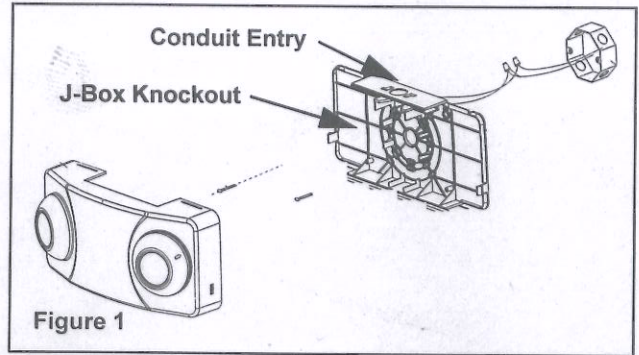

Figure 1
1. Remove 3/8" hole plug in the center of back plate and place it into the hole on top of the housing (see Fig. 1). Remove oblong knock outs on back plate that correspond to junction box holes to be used.